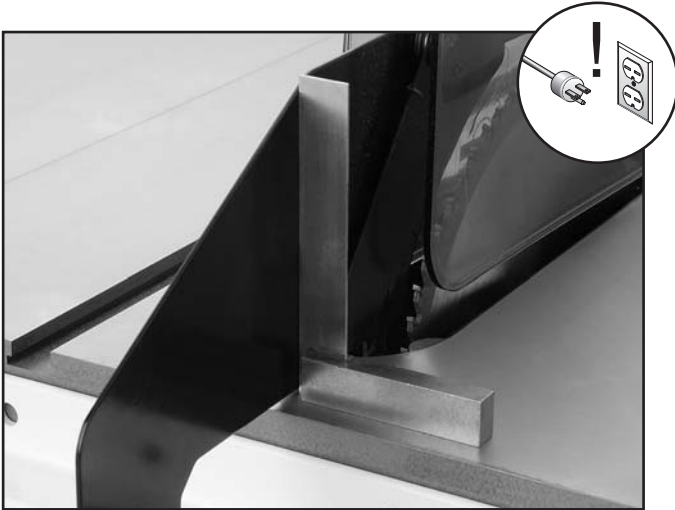

Figure 17. Blade guard perpendicular to the table.
6. Place a machinist's or a combination square against the face of the splitter as shown in **Figure 17**.
7. Loosen the hex nut that secures the mounting bracket to the shaft and align the face of the splitter perpendicular to the table surface (**Figure 17**).